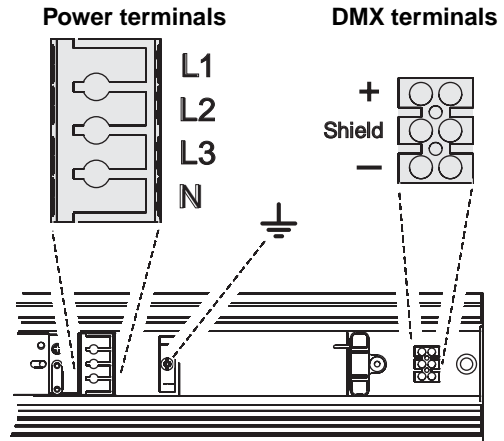

Figure 11: Power and DMX connections
4. See Figure 11. Four spring-loaded terminals marked **L1**, **L2**, **L3** and **N** and one screw clamp marked  are provided for power cable connection. The terminals marked **L2** and **L3** are not used to supply power to the luminaire and are provided only to allow phase conductors to be connected if power is supplied from a 3-phase system (see “*Connecting to a 3-phase system*” on page 20).
3. Connect the data cable wires to the data terminal block (see "DMX terminals" in Figure 11). Wiring polarity is labelled on the luminaire.